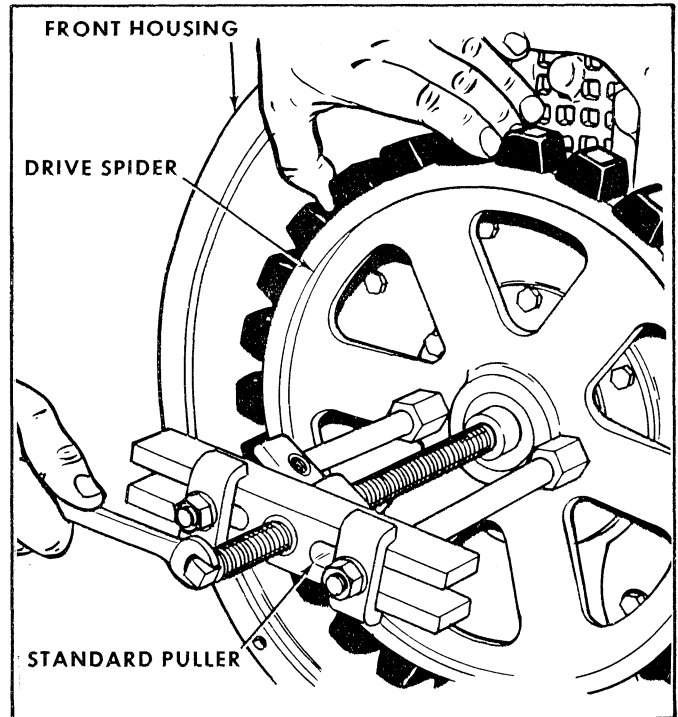

Figure 30. Removing the Drive Spider from the Forward Clutch Shaft.
A. Remove the hex-head capscrew (fig. 58, 3) that secures the retainer washer (6) to the forward clutch shaft (fig. 59, 6). Remove the capscrew (fig. 58, 41), retainer washer from the forward clutch shaft. Remove the roll pin (fig. 59, 4) from the forward clutch shaft only if replacement of parts is necessary. Remove the lathe-cut ring (fig. 58, 5) from the end of the forward clutch shaft. Discard the ring. Remove the 26 rubber blocks (2) from the drive spider (6) only if replacement of parts is necessary. Use a standard puller, and remove the drive spider from the forward clutch shaft. (See figure 30).